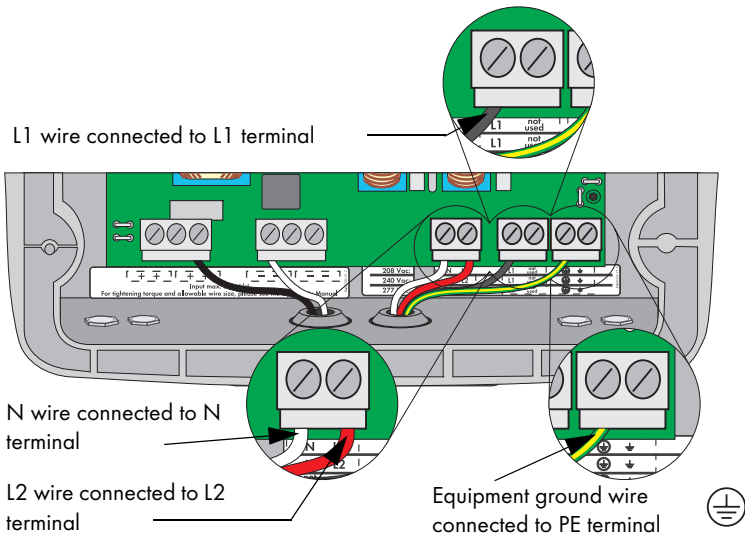
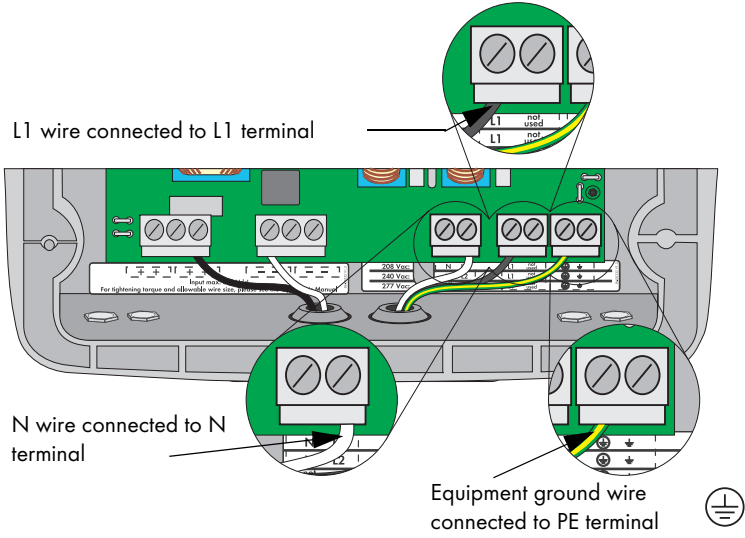

Figure 5-8: AC Connection Terminals for 208 V and 240 V
Figure 5-9: AC Connection Terminals for 277 V
7. Refer to Figure 5-8 and Figure 5-9 on page 51 for steps 8 through 10.